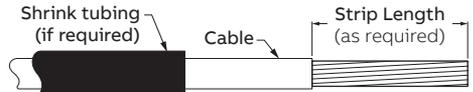

Figure 1
1. Strip the insulation (Figure 1) from cable to length specified in table (on reverse side) taking care not to nick cable strands.